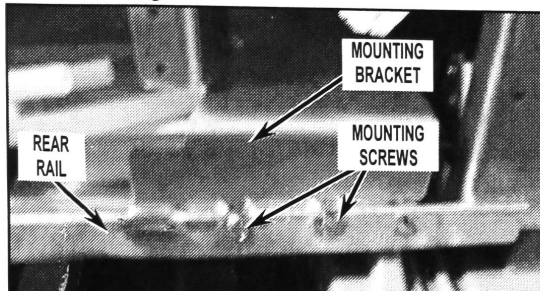

FIGURE 2
8. Install the mounting bracket to the rear rail with (2) mounting screws. See *Figure 2*.